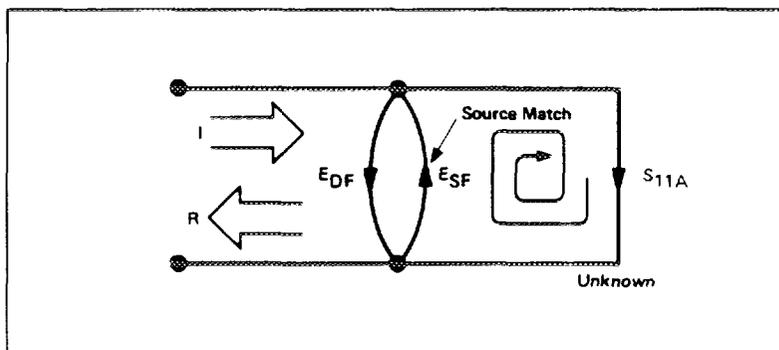

Figure 5-35. Source Match ESF
Since the measurement system test port is never exactly the characteristic impedance (50 ohms or 75 ohms), some of the reflected signal bounces off the test port, or other impedance transitions further down the line, and back to the unknown, adding to the original incident signal (I). This effect causes the magnitude and phase of the incident signal to vary as a function of S11A and frequency. Leveling the source to produce constant (I) reduces this error, but since the source cannot be exactly leveled at the test device input, leveling cannot eliminate all power variations. This re-reflection effect and the resultant incident power variation are caused by the source match error, ESF (Figure 5-35).